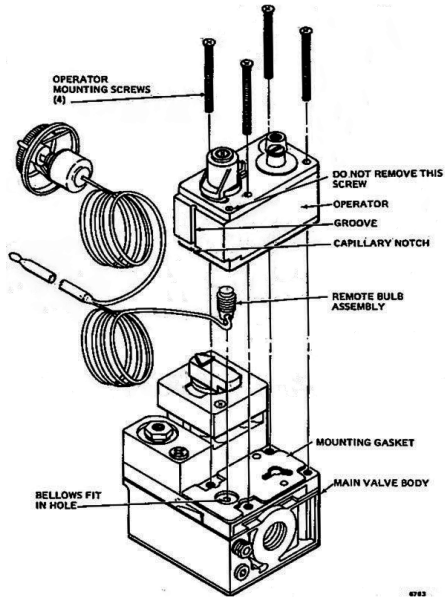

Fig. 10. Mounting the V504 and V524 operator on a standard capacity valve (Cabinet-mounted dial shown).
3. Position new gasket over the operator locating pins. See Figs. 10 and 11.